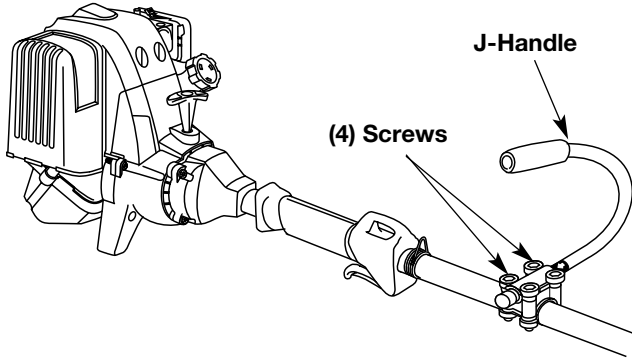

Fig. 1
1. Loosen the four (4) screws holding the J-handle in place (Fig. 1). Do not completely remove the screws.